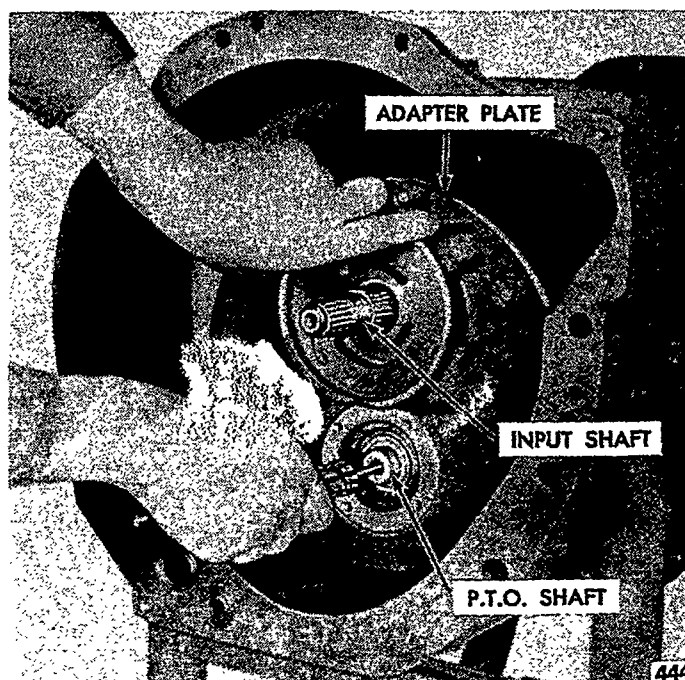

Figure 131—Installing the Adapter Plate
1. Install the adapter plate and gasket, centering the P.T.O. shaft with a suitable tool, as shown in Figure 131. Tighten the nuts to 25-30 ft. lbs.